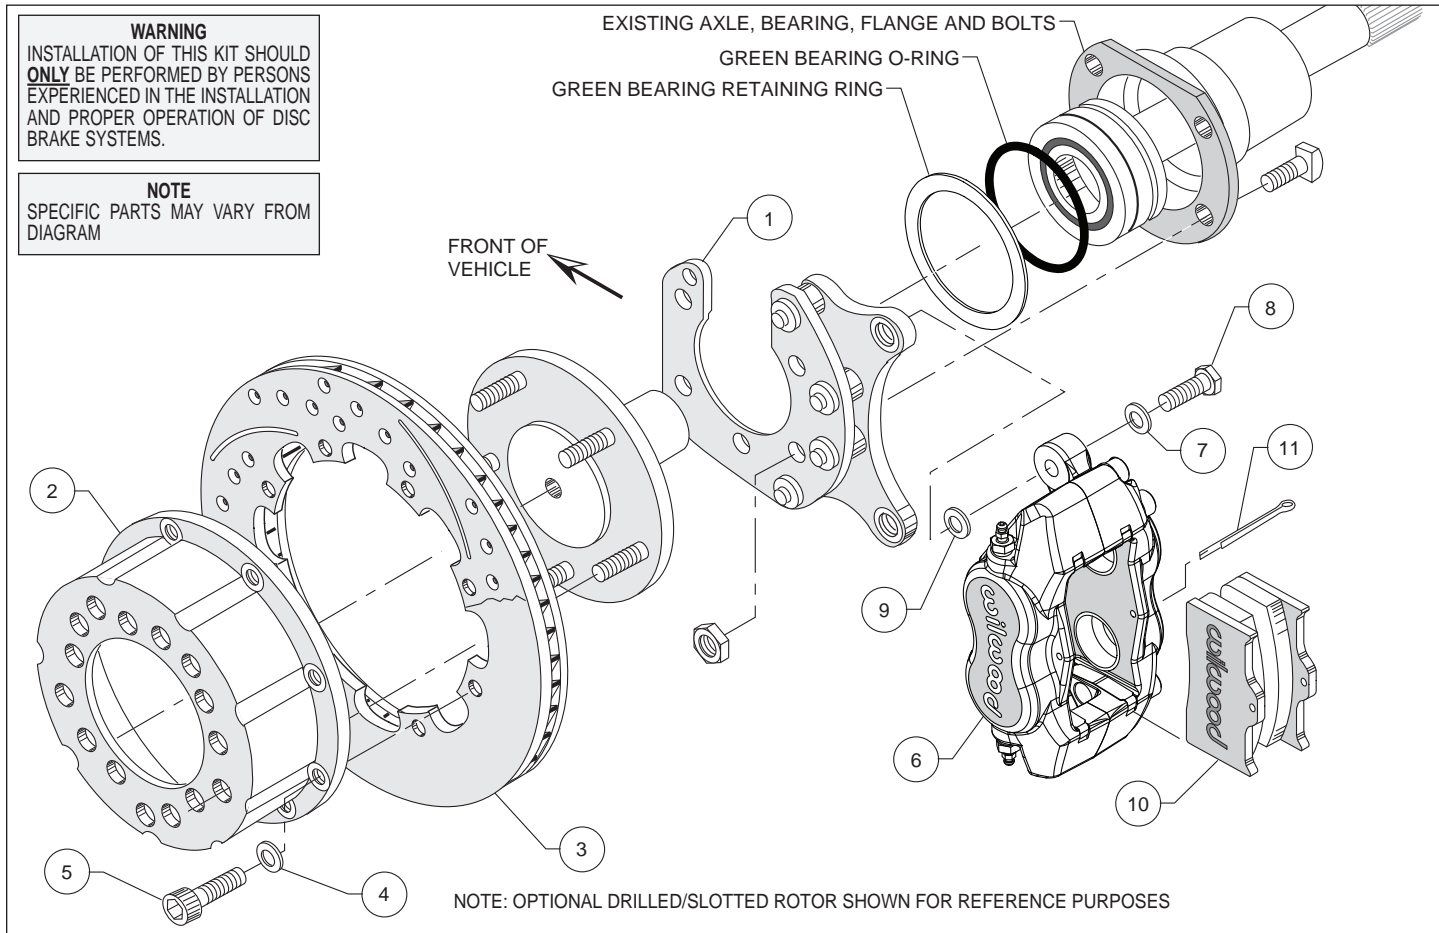
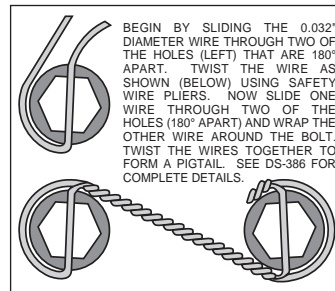
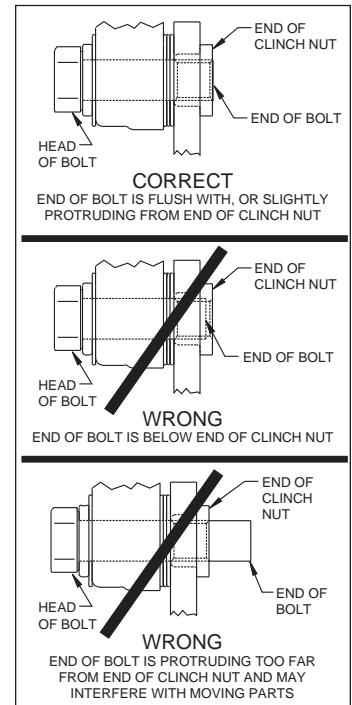

Figure 3. Typical Installation Configuration
Figure 7. Safety Wire Diagram
Figure 8. Clinch Nut Engagement Diagram
- Make sure this is the correct kit to fit the axle housing flange, not necessarily the rear end make. Many times after market manufacturers put a different make of axle housing flange on the stock rear end housing (see Figure 8). Example; Big Ford rear ends with Olds-Pontiac flanges, therefore, an Olds-Pontiac rear disc brake kit would be the correct kit to order.
**Assembly Instructions** (numbers in parenthesis refer to the part list/diagram on the preceding page): **CAUTION:** All mounting bolts must fully engage insert nuts. Be sure to check that all bolts are either flush or protruding through flanged side of insert nut after shimming, Figure 8.
- Temporarily remove the retaining ring and o-ring from the bearing. Use care so as not to damage those components. Orient the bracket assembly (1) as shown in Figure 3 and slide it onto the axle and past the bearing. Reinstall the retaining ring and o-ring onto the bearing, again using care. Insert the axle and bracket assembly into the axle housing. Ensure that the bracket assembly plate fits flush against the axle housing flange. **NOTE:** The bearing retaining ring should be sandwiched between the axle housing flange and the new bracket assembly. Secure bracket assembly to the axle housing flange using the Original Equipment Manufacturer (OEM) bolts and nuts, Figure 3. Stock OEM hex nuts that retain the bracket (1) should be on the wheel side of the bracket. Apply red Loctite® 271 to the OEM bolt threads and torque to OEM specifications. **NOTE:** Make sure the heads of the caliper mounting bracket insert nuts are FACING OUTWARD TOWARDS THE WHEEL.
- Orient the rotor (3) and the hat (2) as shown in Figure 3. Attach rotor to hat using bolts (5) and washers (4). Using an alternating sequence, apply red Loctite® 271 to the threads, and torque bolts to 180 in-lb. Safety wire bolts (5) using standard 0.032 inch diameter stainless steel safety wire as shown in Figure 7. Please refer to Wilwood's data sheet DS-386 (available at
- Align the correct hole pattern in the hat (2) with the stud pattern on the axle flange and slide into place, Figure 3. **NOTE:** The rotor/hat must fit flush against the axle flange or excessive rotor run out may result. Install three lug nuts (finger tight) to keep the rotor/hat assembly in place while continuing with the installation. **NOTE:** Some OEM and after market axles come with stud sizes larger than 0.50" diameter. Verify stud size and have a qualified machine shop drill the bolt circle of the hat/rotor to the correct stud size, if necessary.
- NOTE:** Please reference the caution statement at the beginning of the assembly instructions. Mount the caliper (6) onto the caliper mounting bracket (1) using bolts (8) and washers (7), as shown in Figure 3. Initially place one .032" thick shim (9) on each bolt between the caliper and the bracket, Photo 1. Temporarily tighten the mounting bolts and view the rotor (3) through the top opening of the caliper. The rotor should be centered in the caliper, Photo 2. If not, adjust by adding or subtracting shims between the bracket and the caliper. Always use the same amount of shims on each of the two mounting bolts. **NOTE:** The end of each bolt must be flush with or slightly protruding from the head of the clinch nut, as shown in Figure 8. If necessary place spare shims between washer (7) and caliper mounting ear to achieve the proper clinch nut engagement. Once the caliper alignment and clinch nut engagement are correct, remove the bolts one at a time, apply red *Loctite*® 271 to bolt threads, and torque to 40 ft-lb.
- Install the disc brake pads (10) into the caliper, with the friction material facing the rotor (3), and secure in place using cotter pin (11), Photo 3.